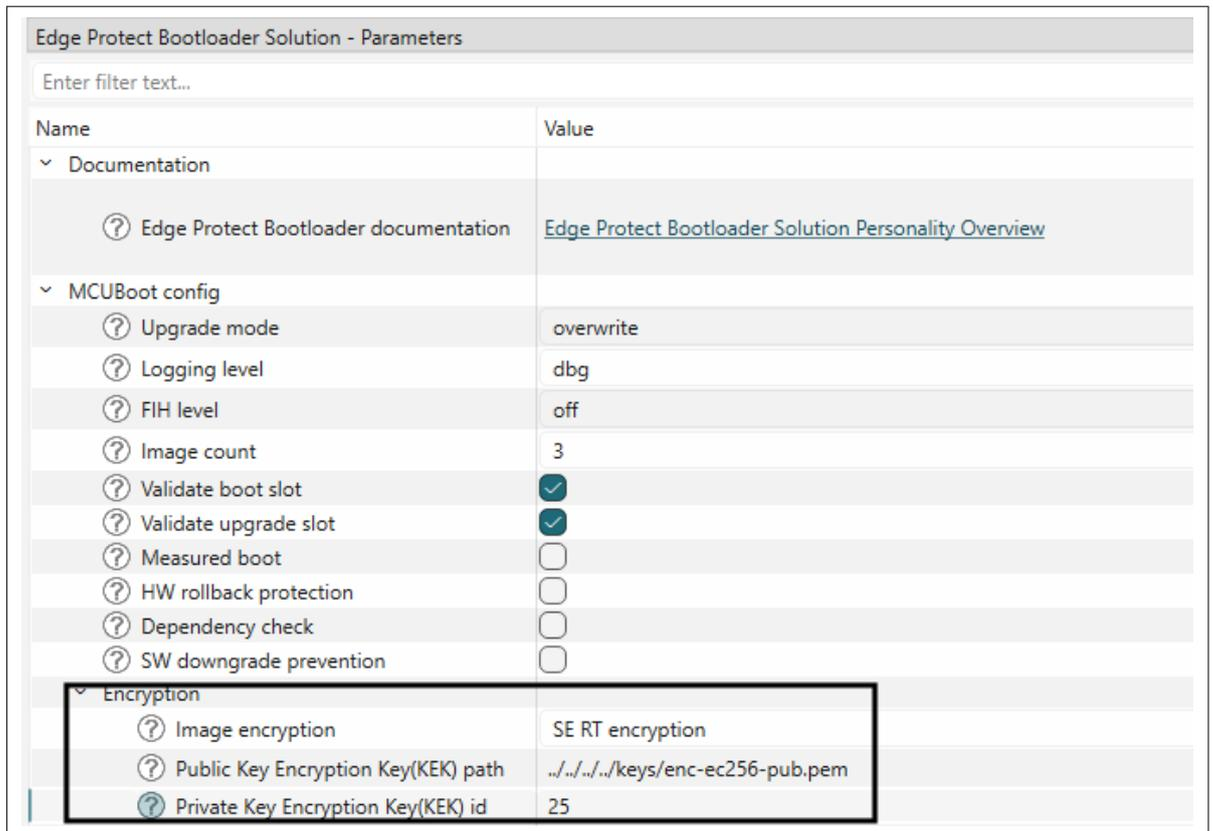

Figure 39 Enable secure encryption
4. Enable encryption mode **SE RT encryption** in the bootloader solution as shown in Figure 39. Provide the KEK path and Key ID in decimal